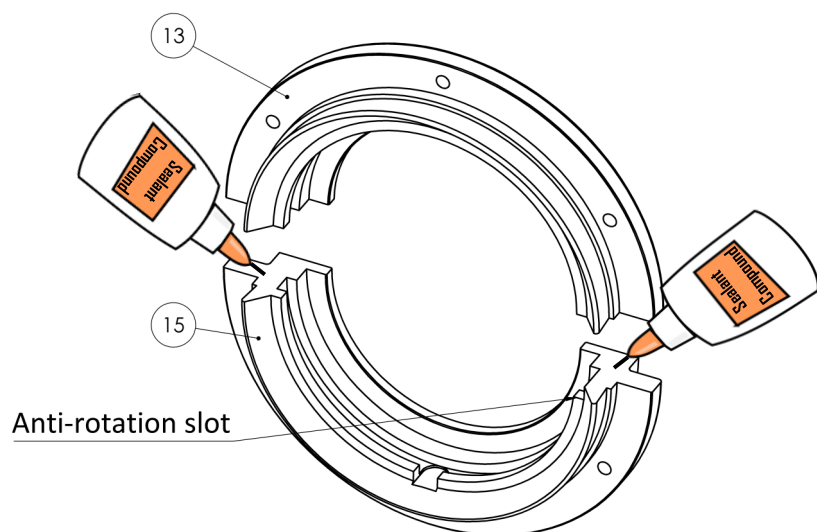

Fig. 37
- the split line and the exterior of the spring guide of the Seal Carrier (fig. 37)